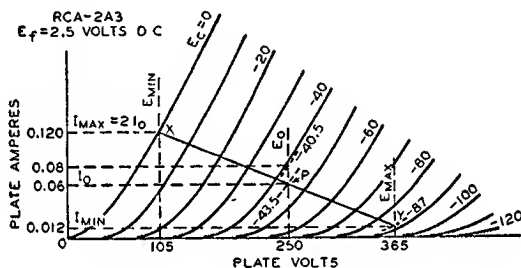

Fig. 19
Calculation of the **power output of a triode** used as a class A amplifier with either an output transformer or a choke having low dc resistance can be made without serious error from the plate family of curves by assuming a resistance load. The proper plate current, grid bias, optimum load resistance, and the per cent second-harmonic distortion can also be determined. The calculations are made graphically and are illustrated in Fig. 19 for given conditions. The procedure is as follows: (1) Locate the zero-signal bias point P by determining the zero-signal bias E_{c0} from the formula:
Example: Determine the load resistance, power output, and distortion of a triode having an amplification factor of 4.2, a plate-dissipation rating of 15 watts, and plate characteristics curves as shown in Fig. 19. The tube is to be operated at 250 volts on the plate.